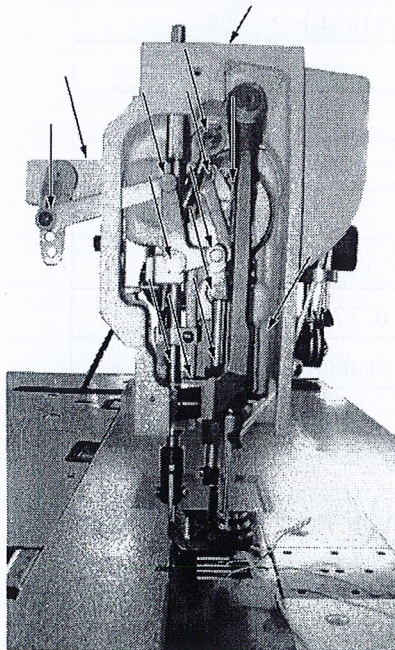

Fig.2
OILING (Figs. 2、3、4 & 5)
1. Oil should be applied at each of the place designated by arrows in Fig. 2, 3, 4&5.